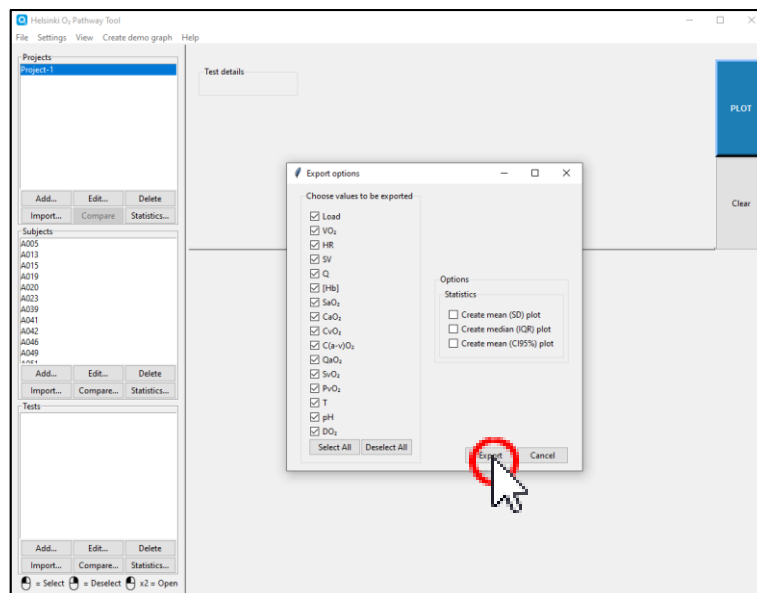

Figure 47
5. Select parameters to be exported (figure 47).
- You can deselect all by clicking the “Deselect All” button (figure 47).
- You can select all by clicking the “Select All” button (figure 47).
6. Click the “Export” button (figure 47).